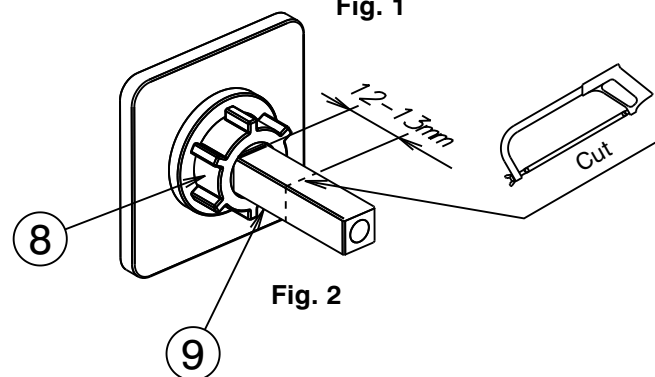

Fig. 2
- 6) Measure & mark on each handle insert (9) a line 12-13mm from the face of the retaining nut (8) (Fig.2). Cut each insert using a hacksaw as shown, ensuring end is square & burrs are removed.